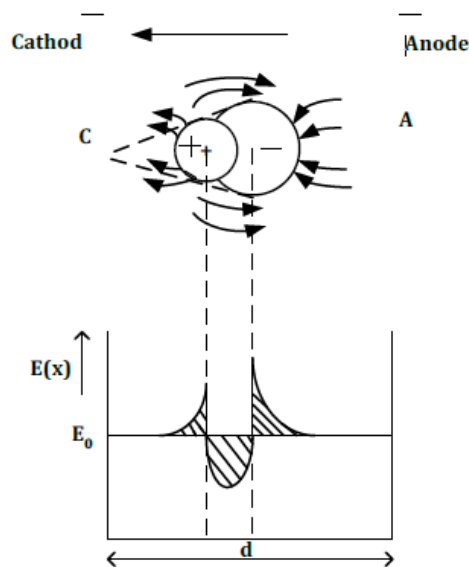

Fig 1.5 : Breakdown with a step function voltage pulse
Fig. 1.5 shows the electric field around an avalanche as it progresses along the gap and the resultant field i.e., the superposition of the space charge field and the original field E_0 .
- B. It can be seen from Fig. 1.5 that the field at the head of the avalanche is strengthened.